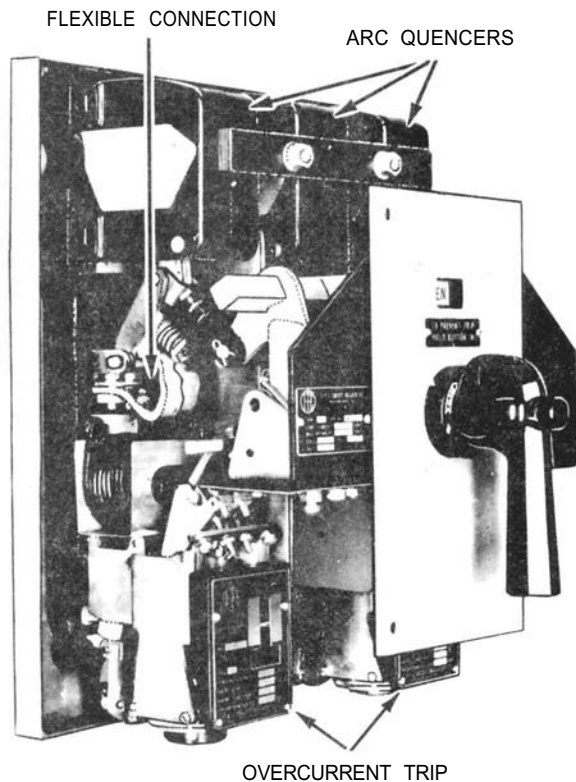

Figure 9-12.—Type ACB circuit breaker.
**ACB.**—The ACB type of CB may be either manual (local) closing or electrical (remote) closing. It has an open metallic frame construction mounted on a drawout mechanism and is normally used where heavy load and high short-circuit currents are available. Figure 9-12 shows the external view of a type ACB circuit breaker.